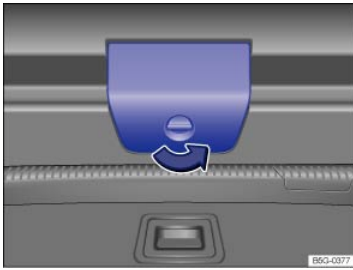

Fig. 64 Inside the luggage compartment: Cover for the trunk lid release.
- Unlock the cover by turning the knob in the direction of the arrow ⇒ Fig. 64. Pull the cover toward you to open.